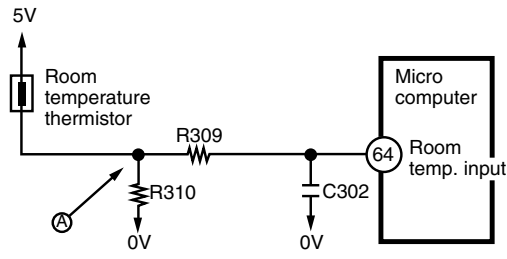

Fig. 6-1
- Fig. 6-1 shows the room temperature thermistor circuit.